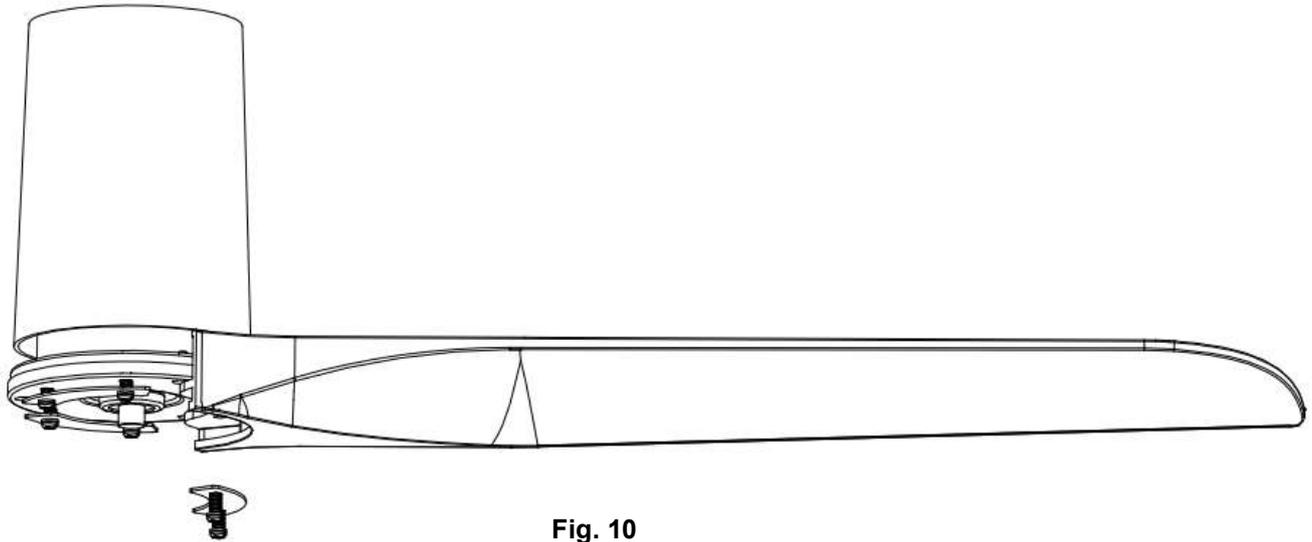

Fig. 10
BLADE ATTACHMENT (Fig.10)
2. Orientate the blade Support plate and fan blade onto the fan assembly (Fig.10)
Mount the fan blade onto the fan assembly using three blade screws with lockwashers in step 1, (Fig.10). Ensure all screws are tightened evenly to reduce the chance of warping or unbalancing.